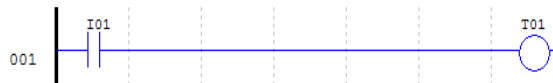

Figure 1
1.0 Using the SG2 Client software, duplicate the program as shown in **Figure 1** below.